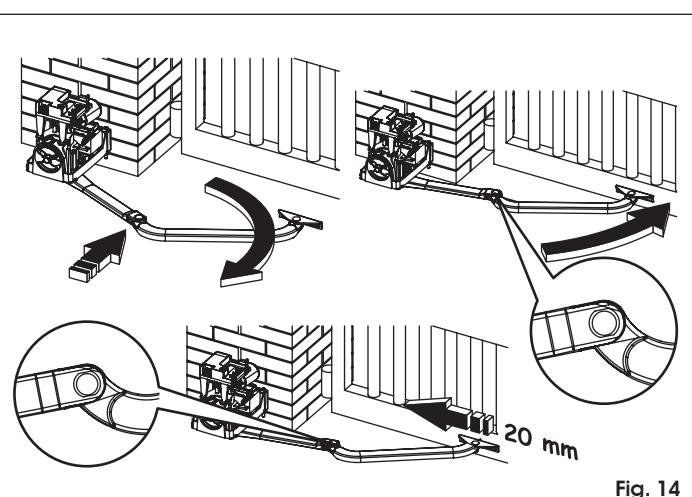

Fig. 14
8. Align the arms you have just assembled, pushing in the central zone until they stop, see Fig. 14 ref. ①.
9. Rest the front bracket on the leaf, Fig. 14 ref. ②.
10. Move back the front bracket by about 20 mm and mark the securing holes, Fig. 14 ref. ③.
- make sure that the two arms do not impact each other, as shown in Fig. 14 ref. ②.